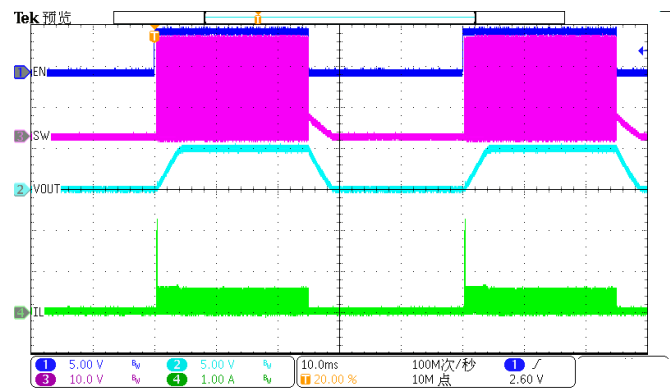

Figure 15. EN Toggle, IOUT=0.1A
The SCT9331C features external programmable output voltage by using a resistor divider network R1 and R2 as shown in the typical application circuit Figure15. Use Equation (12) to calculate the resistor divider values.